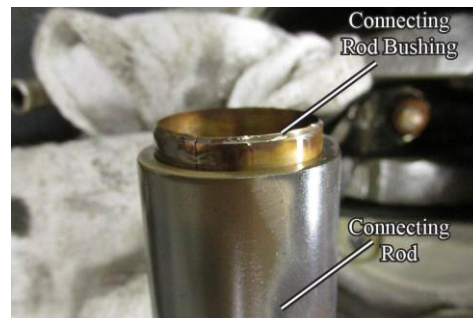

Figure 5
- (4) If the edge of the connecting rod bushing is raised above the surface of the connecting rod perimeter (Figure 5), the connecting rod bushing is loose or has moved or is out of place. Remove, discard, and replace the connecting rod bushing.
(b) If the sum total of the measurements from both sides of the connecting rod is greater than 0.038 in. (0.965 mm) (it is an indication the connecting rod bushing is loose or has moved or is out of place) (Figure 5). Remove, discard, and replace the connecting rod bushing.